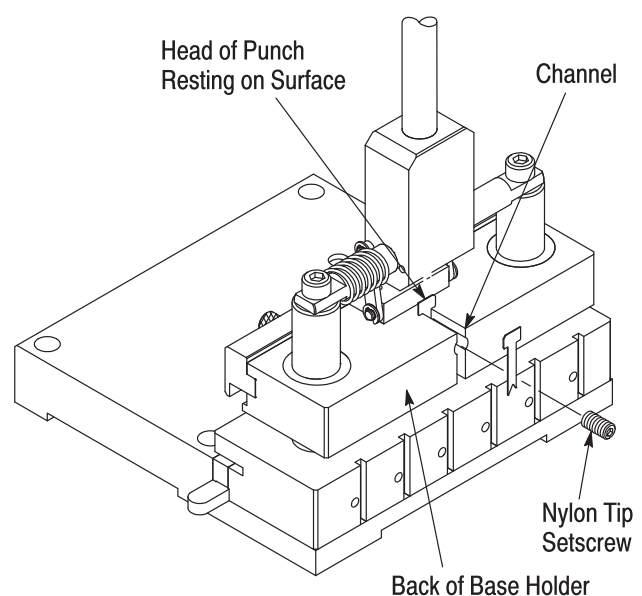

Figure 3
5. Store unused slotting punches in the channel in the back of the base holder. See Figure 3. Using a  $\frac{5}{32}$ -in. hex wrench, remove the nylon tip setscrew from the channel. Orient the punch so that it faces the channel then slide the shaft of the punch into the channel with the head of the punch resting on the surface of the base holder. Secure the punches with the setscrew.